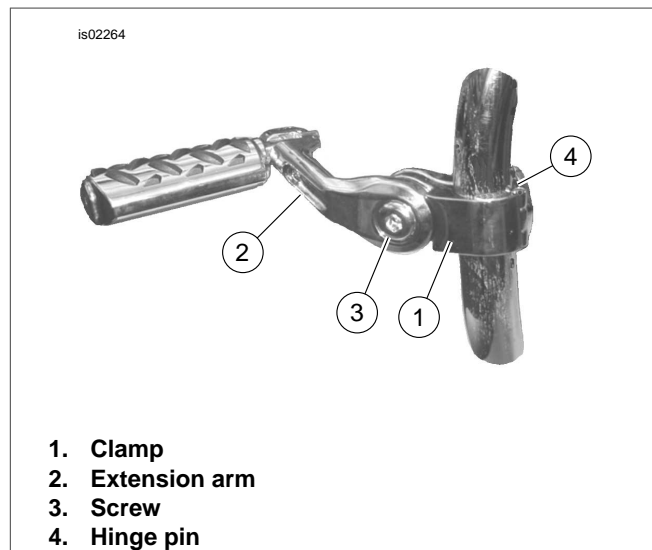
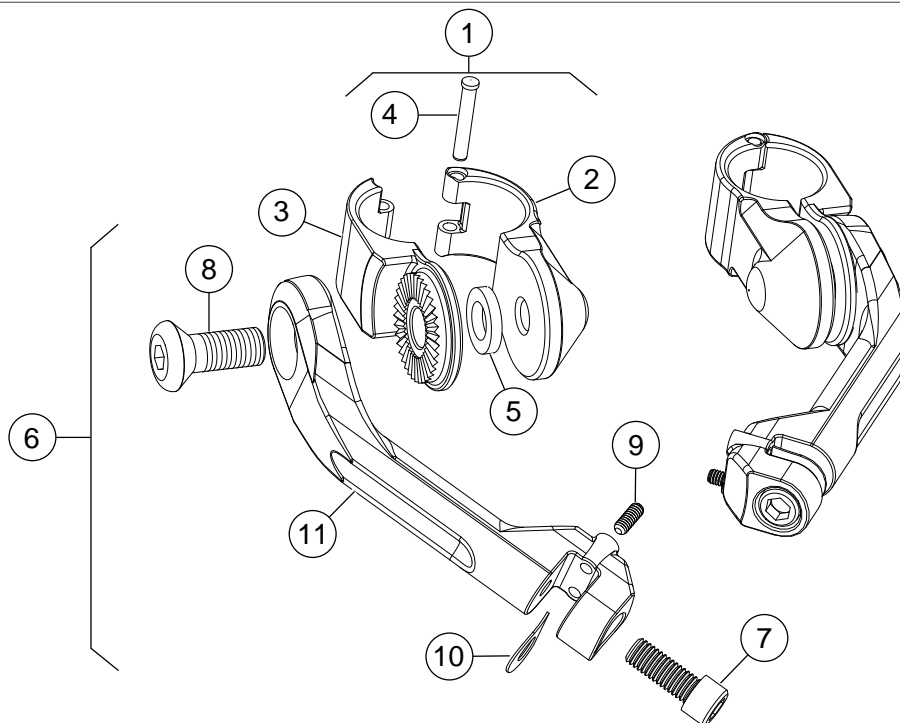

Figure 1. Engine Guard Footpeg Mounting (Shown Installed with Footpeg)
Figure 2. Service Parts: Engine Guard Footpeg Mounting Kit
See Figure 2 and Table 1.
2. See Figure 2. Obtain the mounting clamp (11) from kit. Position the clamp halves around the engine guard at the desired height and install with hinge pin head facing upward. The "cogged" face of the clamp should face the extension arm.
3. Obtain the washer (5), screw (8) and one of the angled arms (11) (long or short depending on kit number) from kit. Using the screw, align and install the angled arm with washer (5) positioned between the clamp "ears".
4. See Figure 1. Position the angled arm such that footpeg will pivot upward and toward the rear of the motorcycle. Do not tighten completely at this time.
5. Refer to Figure 1 and Figure 2. Obtain the footpeg (sold separately), D-spring washer (10) and screw (7) from kit. Install the D-spring washer so it is positioned inside the footpeg mount (arm) with the square "D" edge towards the inside of the mount. Hold the washer in place and slide the footpeg into position. Install the screw and tighten footpeg screw to 19 ft-lbs (26 Nm).
7. Position the footpeg assemblies so they are at equal heights and symmetrical. Securely tighten each assembly until it cannot be rotated on the engine guard with reasonable foot pressure but do not exceed 55-60 ft-lbs (75-81 Nm) on item 8.